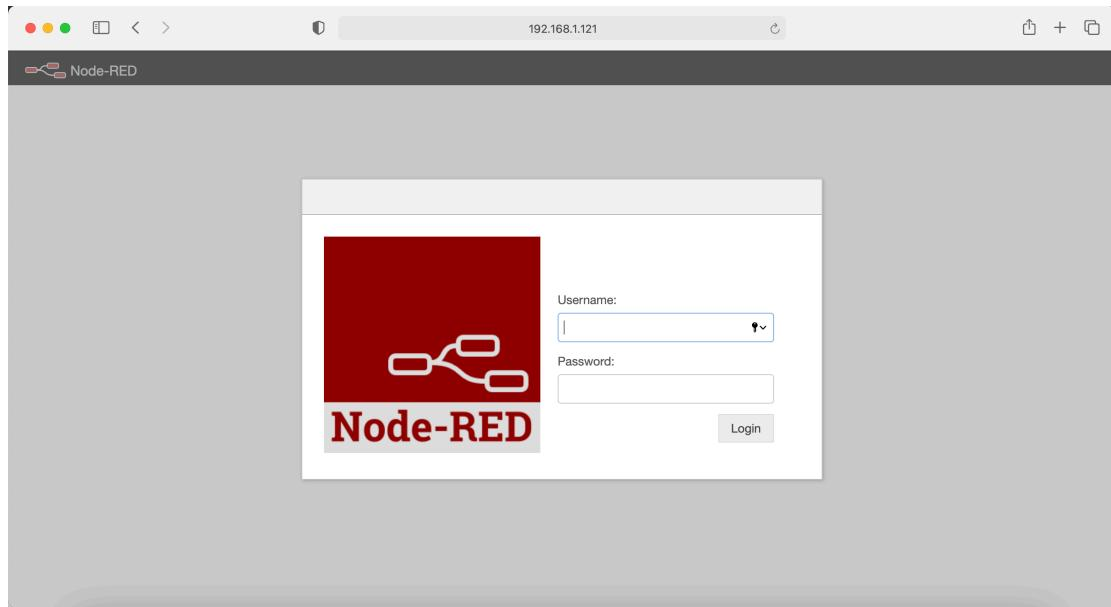

Figure.1
- 3: Once you open the address, you will be prompted to enter username and password (Figure.1). Please use the following default username and password: